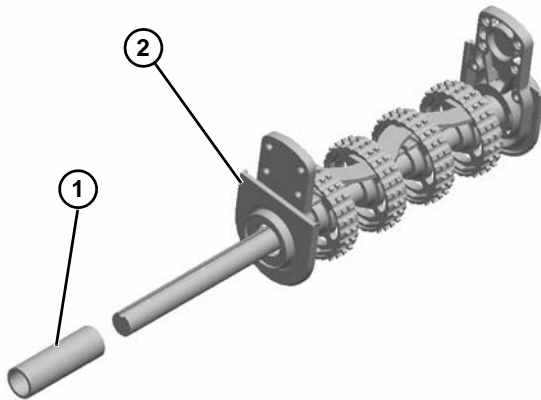

Figure 41
9. Slide off tube spacer (Figure 41, item 1) and tail through plate (Figure 41, item 2).